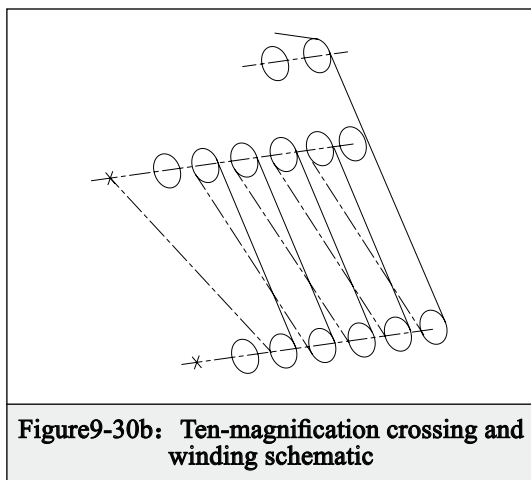

Figure9-30b: Ten-magnification crossing and winding schematic
2. When lift weight with a ten magnification, cross and wind steel wire rope according to the method as shown in Figure9-30b.